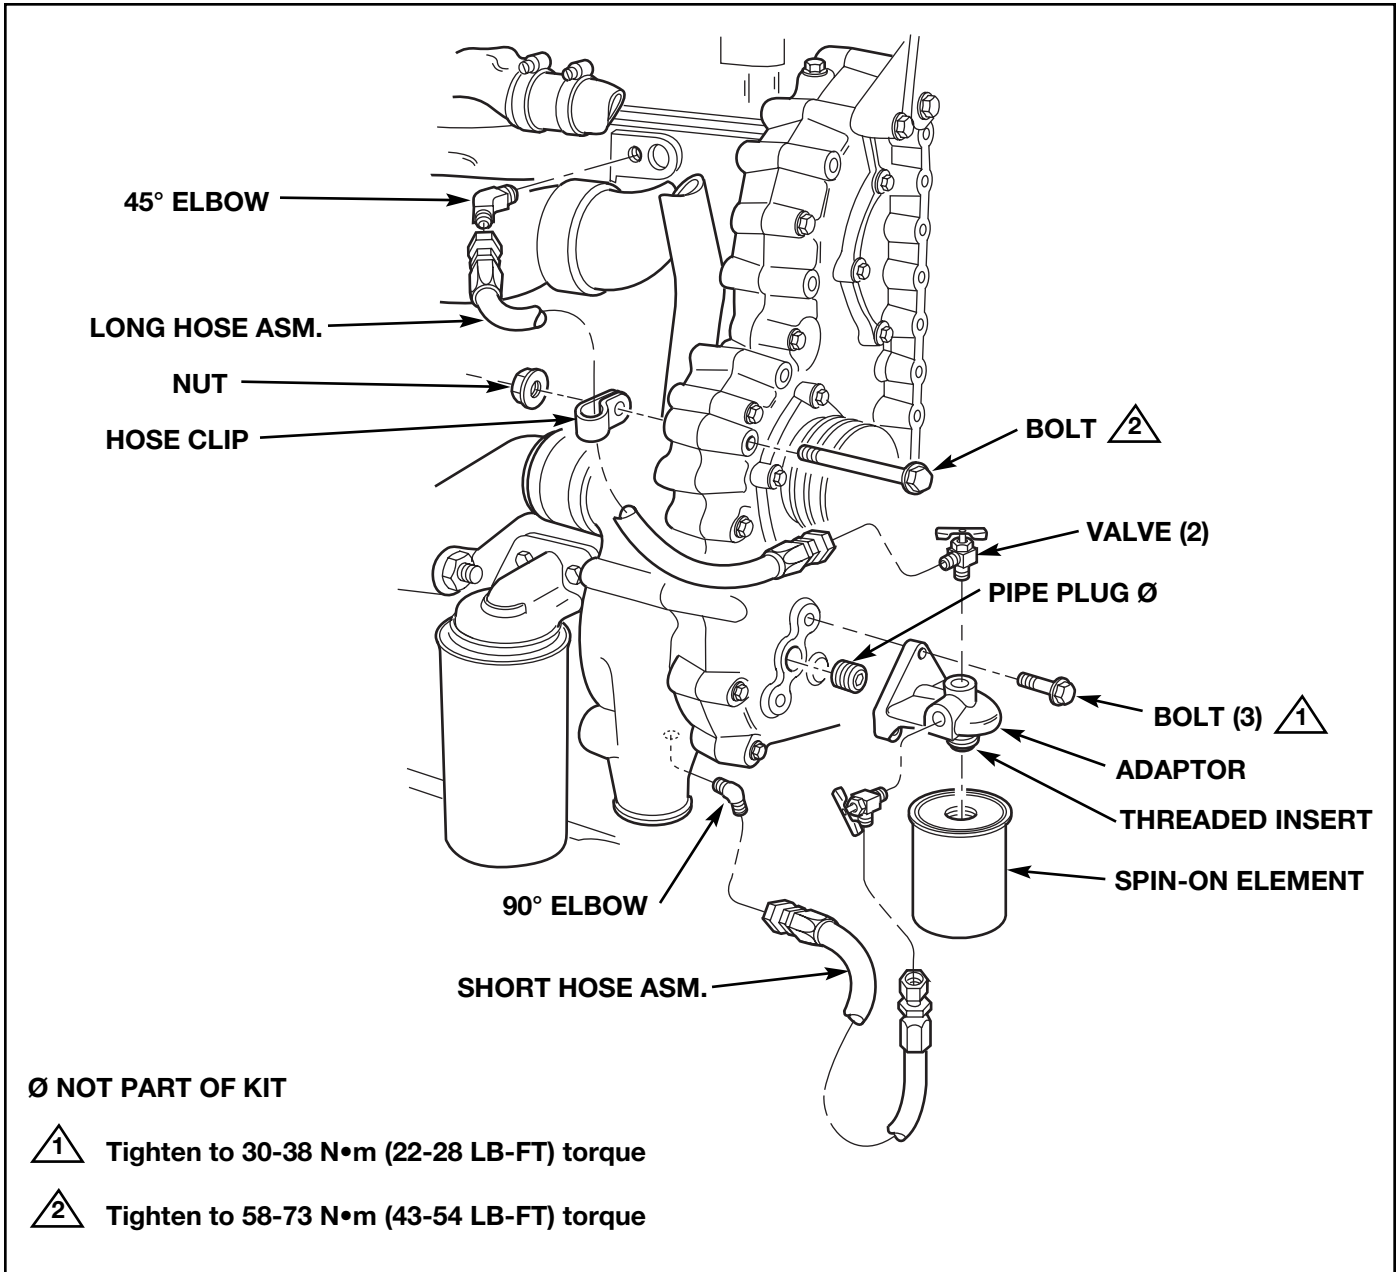

Figure 1. Kit Installation
3. Install the shutoff valves in the inlet (side) port and outlet (top) port of the adaptor. Valves should be in the closed position. See Figure 1.